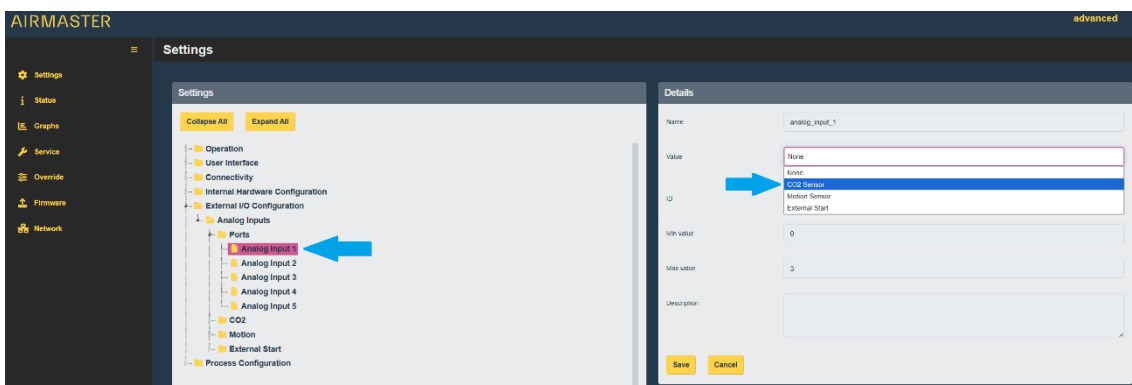

Figure 28: Analog Input configuration
2. Click on "Analog Input 1". Click on the field next to "Value". Select "CO₂ sensor": see Figure 28 below: